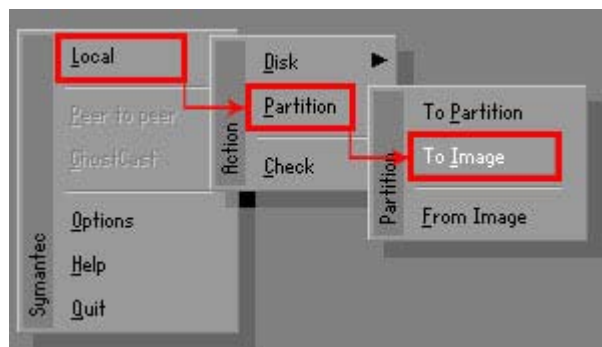

Figure C-13: Symantec Ghost Path
Step 4: Use mouse to navigate to the option shown below (Figure C-13).